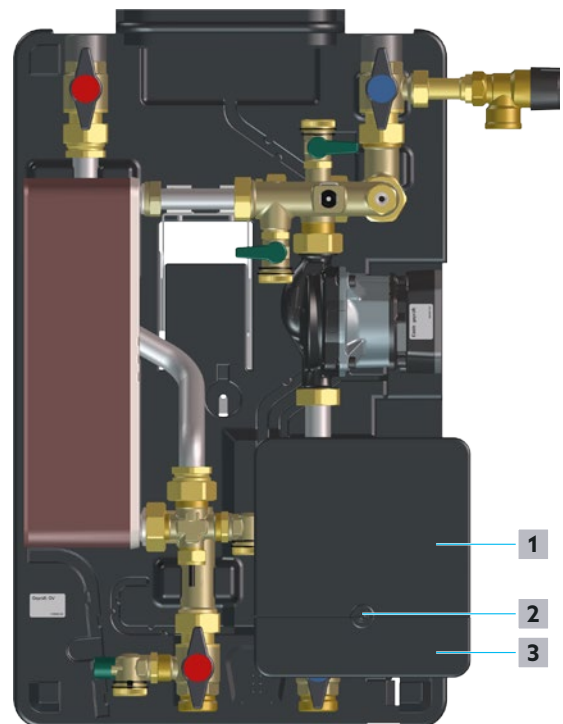

Fig. 22: Opening of the controller
- Loosen the screw (position **2** in Fig. 22 on page 26) and put it aside.
- Slide the connection panel cover (position **1** in Fig. 22 on page 26) upwards until it audibly clicks into place.
- Fold down the supply line cover (position **3** in Fig. 22 on page 26).